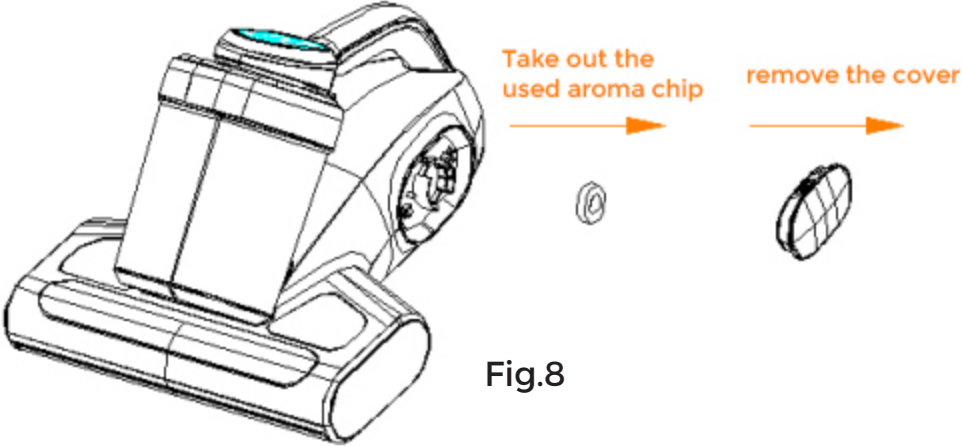

Fig.8
- 3. Remove the used aroma chip (Fig. 8).